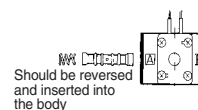

Fig. 4
3. Invert the spool valve 180° and insert it from the piston cover side (the side of the body marked "A") of body e. (Fig. 4)